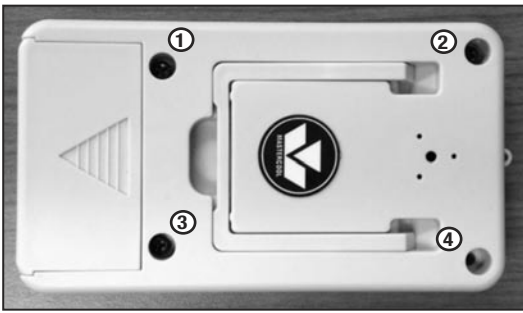

Figure 1
2. Remove the four screws in the back of the unit. (see Figure 1)